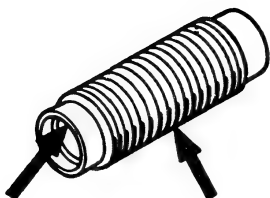

Fig. 26 Screw bushing
4. Check that the screw bushing's threaded portion is not damaged or worn excessively and that the adjusting pin moves smoothly and firmly in the screw bushing. Replace the screw bushing (and the adjusting pin) if defective.(Fig. 26)